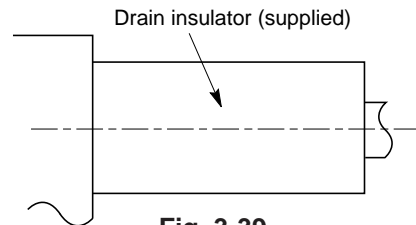

Fig. 3-39
- After checking the drainage with a drain test, wrap the accessory packing and drain pipe insulator around the pipe. (Fig. 3-39)